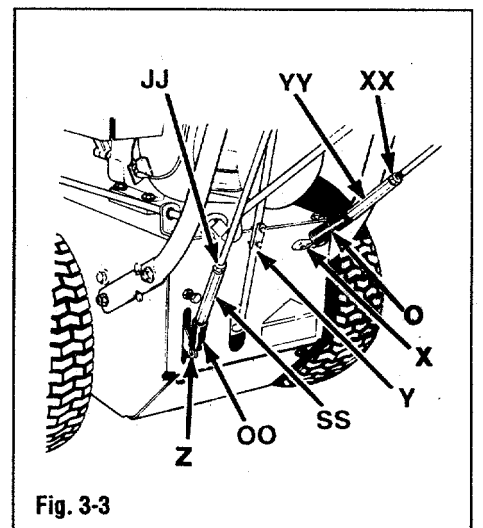

Fig. 3-3
1. Hook spring (O, Fig. 3-3) on lower end of auger drive control rod into hole in control arm (X). Press arm (X) down fully.
2. Measure and note spring (O) length, then fully depress auger drive control lever on right-hand handlebar. Spring should now be 11/16" +/- 1/16" (17 mm +/- 1.5 mm) longer than earlier measurement. To adjust:
A. Loosen jam nut (XX) and thread upward on rod. Turn adjuster (YY) to increase or decrease length as needed.
1. Hook spring (OO, Fig. 3-3) on lower end of control rod into hole in control arm (Z). Press control arm (Z) down fully.
2. Measure and note spring (OO, Fig. 3-3) length. Fully depress wheel drive control lever on left-hand handlebar.
1. Attach gear shift upper rod (U, Fig. 3-3) and lower rod (Y) together with 1/4-20 x 3/4 hex screws and 1/4-20 locknuts.
3. Push gear shift lower rod (Y, Fig. 3-3) downward as far as possible.